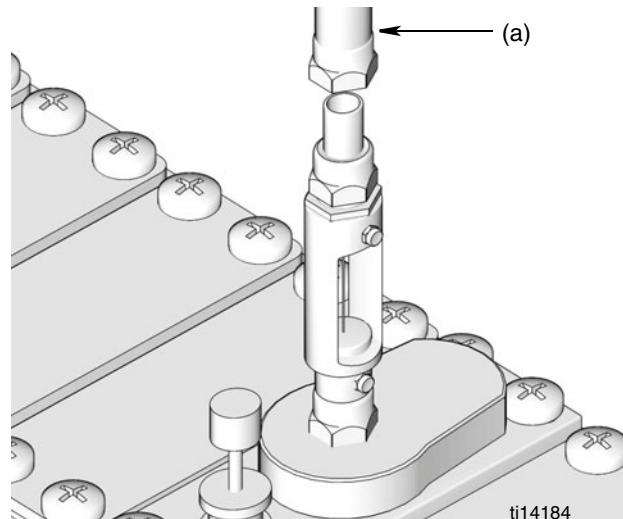

FIG. 7
3. Connect fluid lines (a) to pump (FIG. 7).